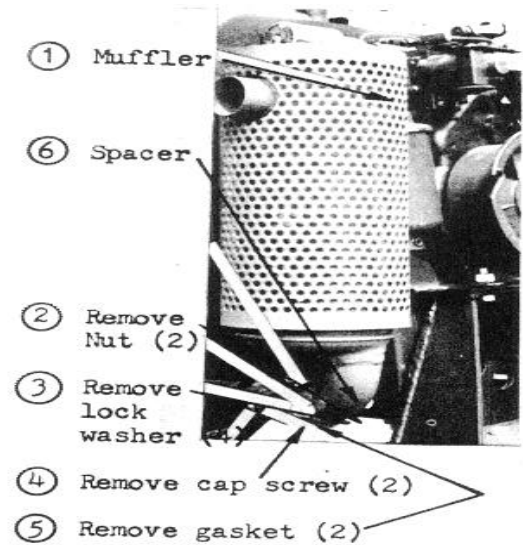

FIGURE 3-8. MUFFLER REMOVAL AND INSTALLATION
A. GENERAL - The exhaust system consists of a muffler which connects to the manifold piping of the engine. This system tends to equalize the pressures at which the exhaust is released, resulting in a noise reduction. The muffler consists of a sheet-metal cylinder which contains baffles around which exhaust gases must circulate before they are dispelled to atmosphere. The muffler is held in place with 2 cap screws, with 4 lock washers and 2 nuts. There is a gasket on each side of the spacer - spacer located between the manifold flange & the muffler flange (Fig. 3-8).
Refer to Fig. 3-8, and remove muffler.
2. Refer to Fig. 3-8 and reinstall.